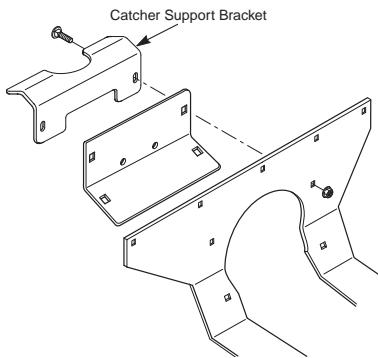

FIGURE 5-4
14. Install the catcher support bracket onto the rear of the machine and secure with 5/16-18 x 1" carriage bolts (p/n 04003-04) and 5/16-18 serrated flange nuts (p/n 04019-03) See Figure 5-4.